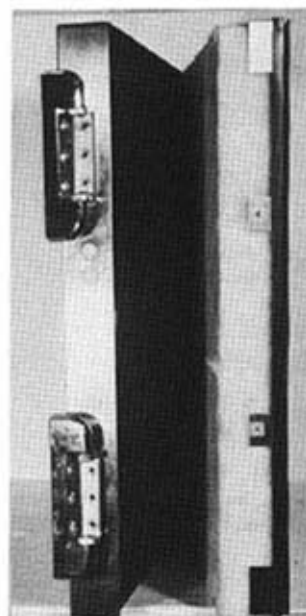

FIG. 13
3. Remove the six (6) screws securing hinges to cabinet side and save for reuse. Remove door.
4. Remove the eight (8) screws (CC16 models), 10 screws (CG15 and CB21 models), or 14 screws (CB53 models) securing inner door panel to outer door panel and remove insulation. Save screws and insulation for reuse (See Figure 13).